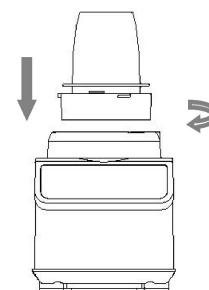

Fig. 4A
1) When need to use chopper cup , please anticlockwise take out the jar from motor base first, then place the chopper cup on the motor base and turn it clockwise until tightly to ensure it was assembled in place.(See Fig.4A/4B)